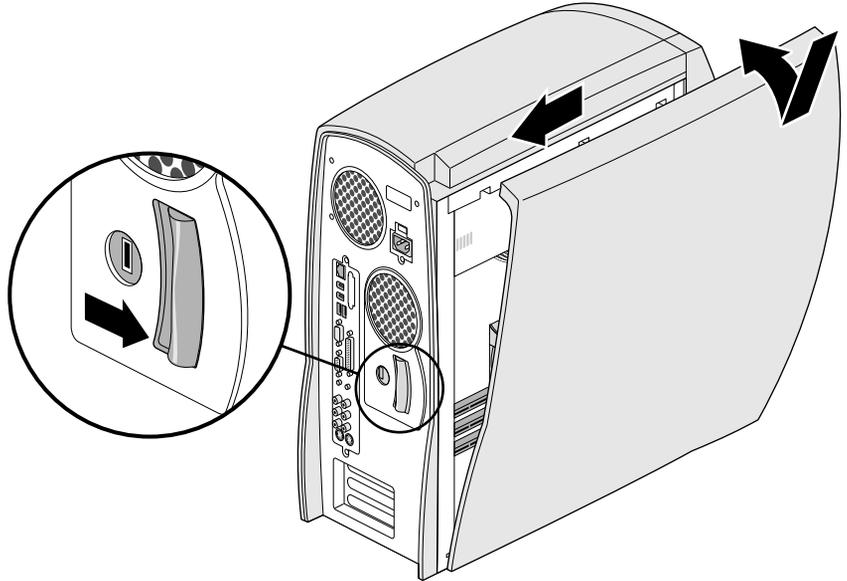

Figure 2-5 Replacing the Side Cover
1. Facing the side of the system, place the tabs on the bottom of the cover into the notches in the lower edge of the chassis, as shown in Figure 2-5, then tilt the cover up and slide it towards the back of the system until it stops.